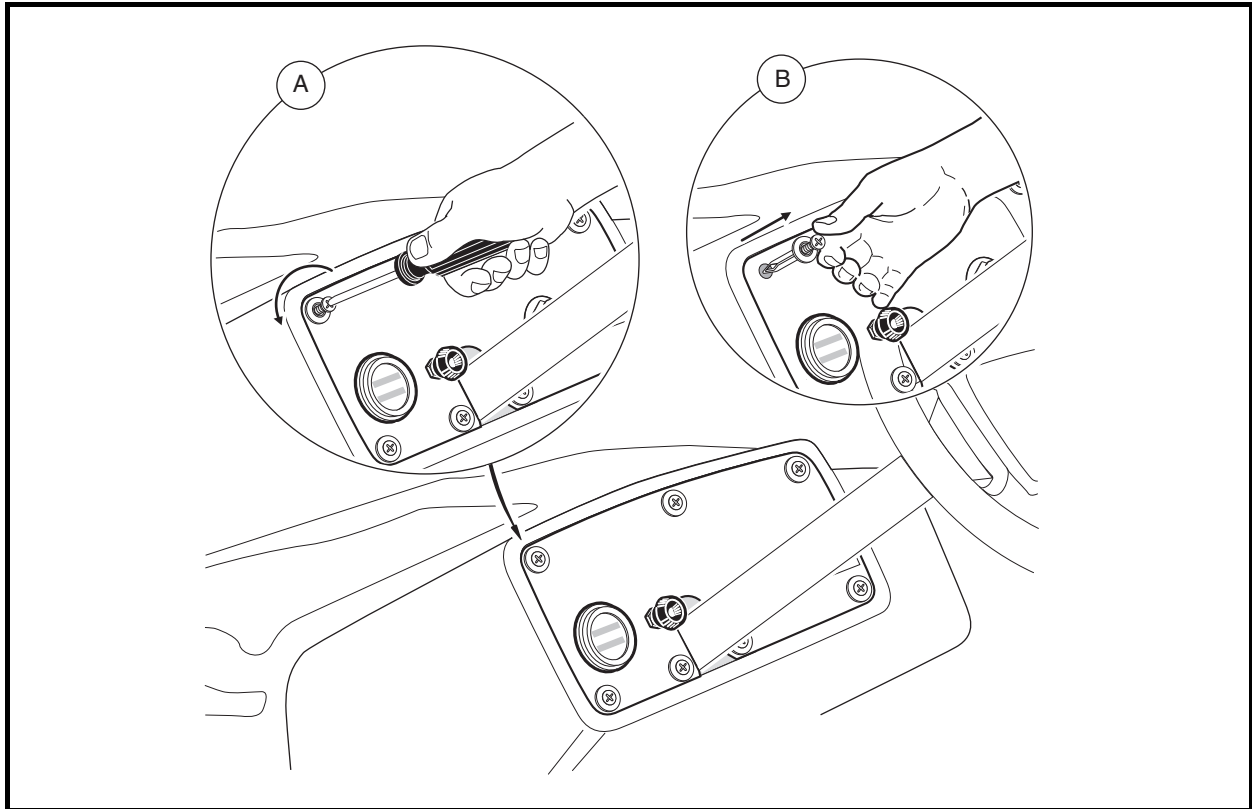

Figure 12-33 Center Dash Panel Removal
- 3.1. Loosen seven Tuflok screws, but do not remove screws completely, as shown in Detail A (**Figure 12-33, Page 12-25**).